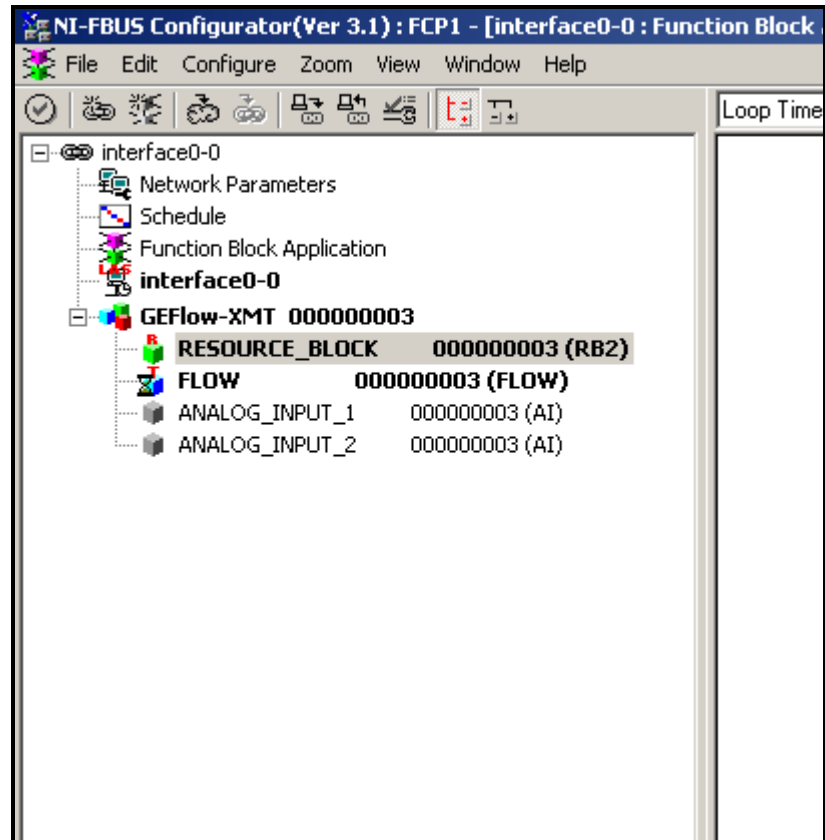

Figure D-1: Configuration Utility Setup Example
Figure D-1 below shows the Configuration Utility with a flowmeter on the network (GE Flow-XMT).
1. Double click on the AI block for which you wish to set the units (ANALOG_INPUT_1 or ANALOG_INPUT_2 in the tree under GEFlow-XMT; see Figure D-1 on page -2).
1. Double click on the FLOW transducer block (in the tree under GEFlow-XMT; see Figure D-1 on page -2).